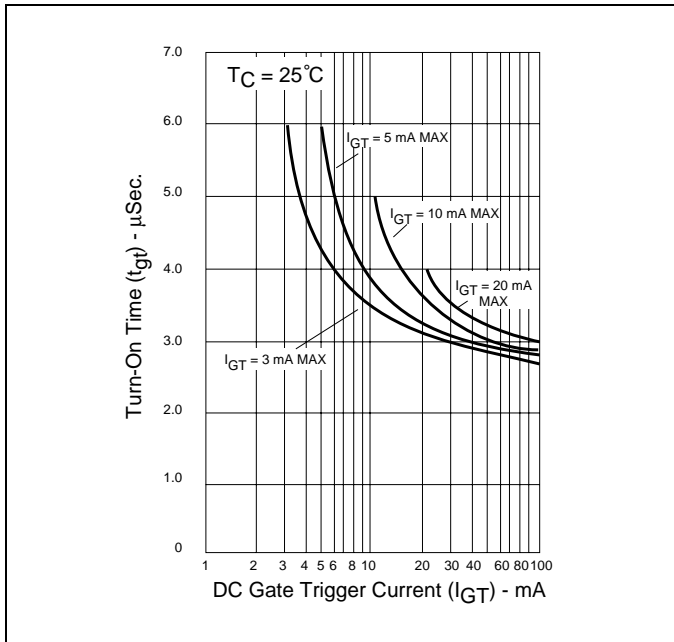

Figure 1.8 Turn-On Time vs Gate Trigger Current (Typical)
- See Figure 1.8 for  $t_{gt}$  vs  $I_{GT}$ .